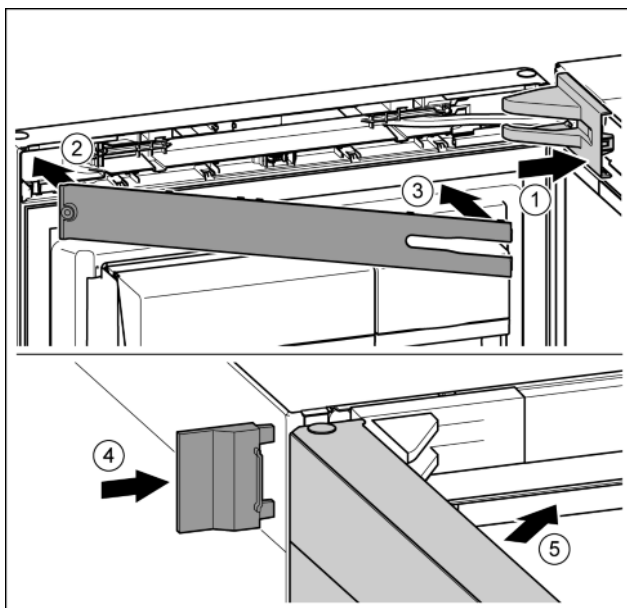

Fig. 22
- Position the bearing bracket and engage. If necessary push apart carefully. *Fig. 22 (1)*
- Position the panel. *Fig. 22 (2)*
- Swing in the panel and click into place. *Fig. 22 (3)*
- Slide on the external cover. *Fig. 22 (4)*
- Close the upper door. *Fig. 22 (5)*